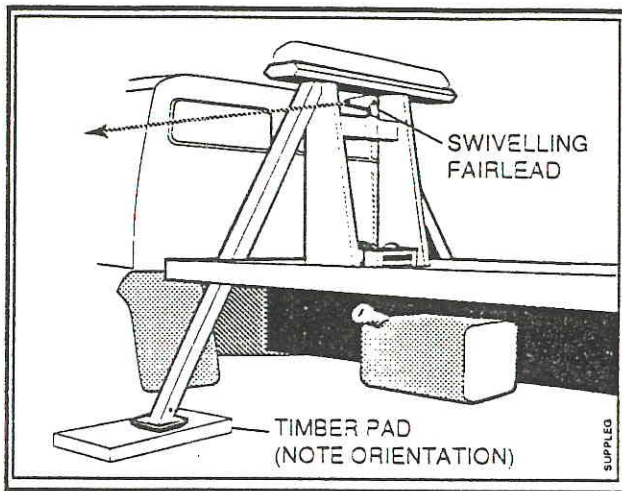

Figure 19 - Side Support Leg
L. For heavy side-winch, a high level winch fairlead and side legs is an option. Figure 19 shows a typical arrangement. To operate, undo the leg locking pin and manually lower the leg to the ground, ensuring that the locking pin engages in a suitable hole. On soft surfaces or on made surfaces, paving slabs, concrete, asphalt etc, it is wise to lay down a timber pad to spread the load. Before deploying the leg ensure that the bed lock is engaged.